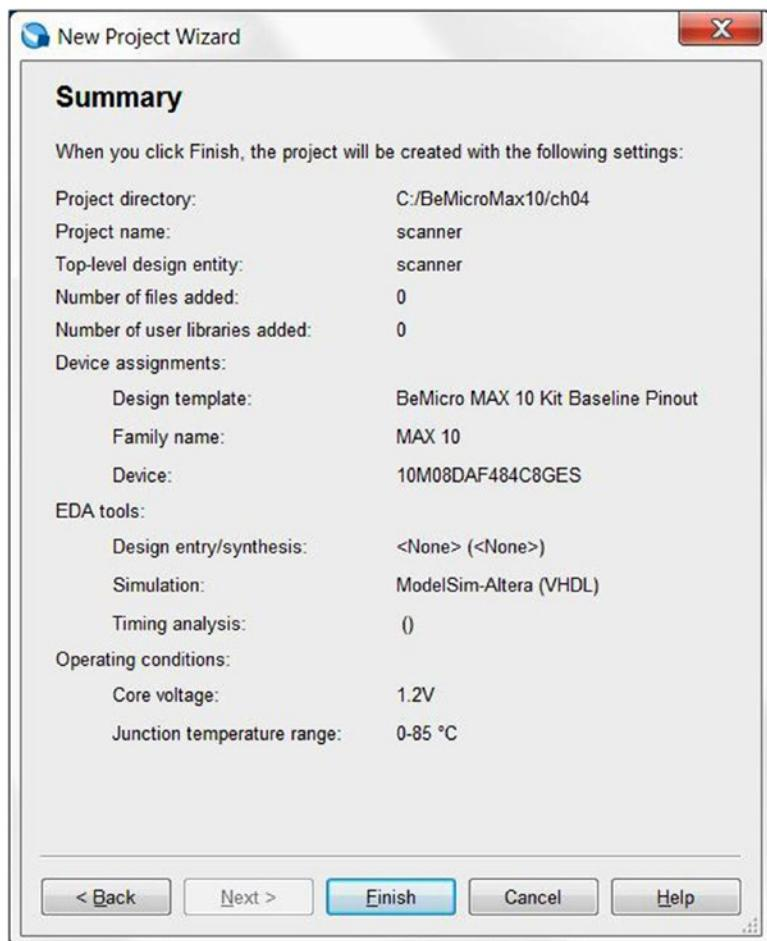

Figure 4-13. New Project Wizard—Summary
14. This is the last step to set up the BeMicro MAX 10 project. Figure 4-13 shows a summary of the project. Make sure your summary is the same as this one and then click **Finish**.